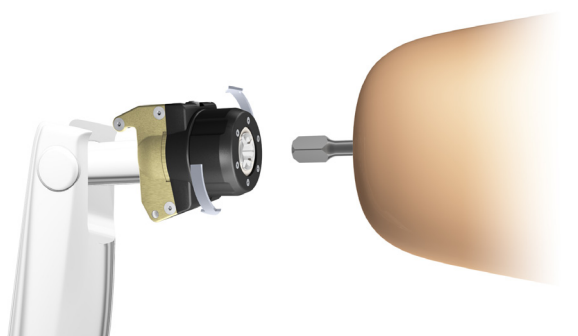

Figure 1. Turn the grip counter-clockwise until it stops.
2. Open the jaws by turning the grip counter-clockwise by hand until it stops and the Abutment can enter the Axor™ II (see Figure 1).